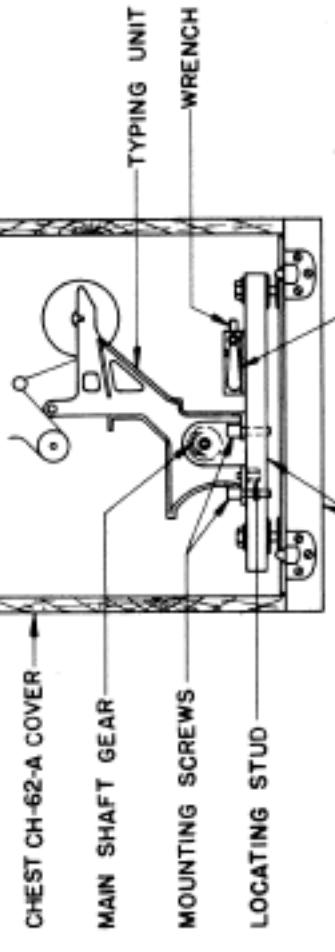

FIGURE 4.
2. REMOVE PLATEN CRANK FROM PLATEN SHAFT AND PLACE ON CHEST CH-62-A BASE AS SHOWN IN FIGURE 4.
5. PLACE TYPING UNIT ON CHEST CH-62-A BASE AS SHOWN IN FIGURE 4, AND INSTALL THE FOUR MOUNTING SCREWS. TIGHTEN MOUNTING SCREWS WITH WRENCH AND REPLACE WRENCH IN HOLDER ON BASE.